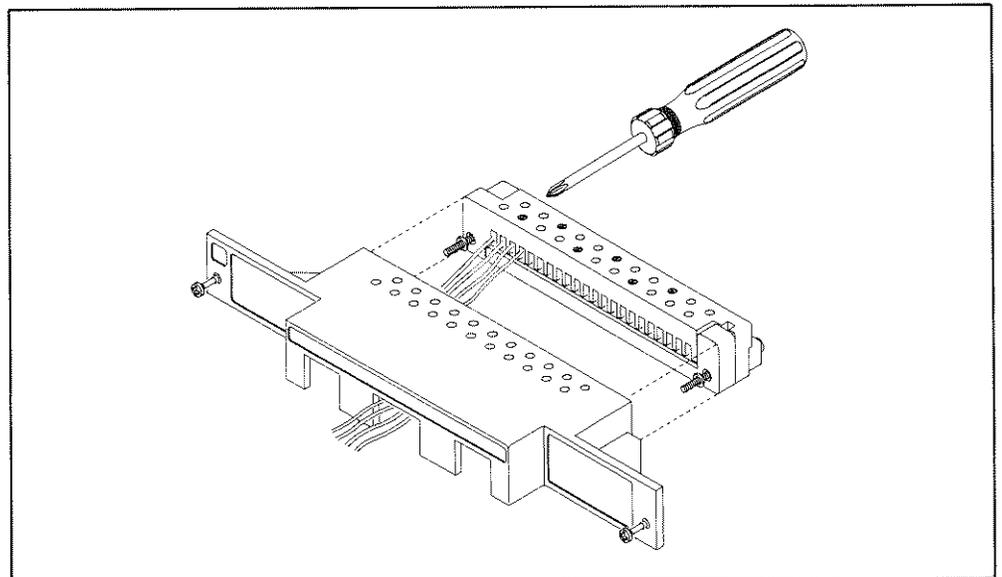

Figure 5-5. Assembling Wiring Block/Strain Relief
1. Secure the wiring block to the strain relief housing using the wiring block's captive screws (see Figure 5-5). After tightening these screws, verify that the clamping screws are accessible through the holes in the top of the strain relief housing. If not, adjust the captive wiring block screws.